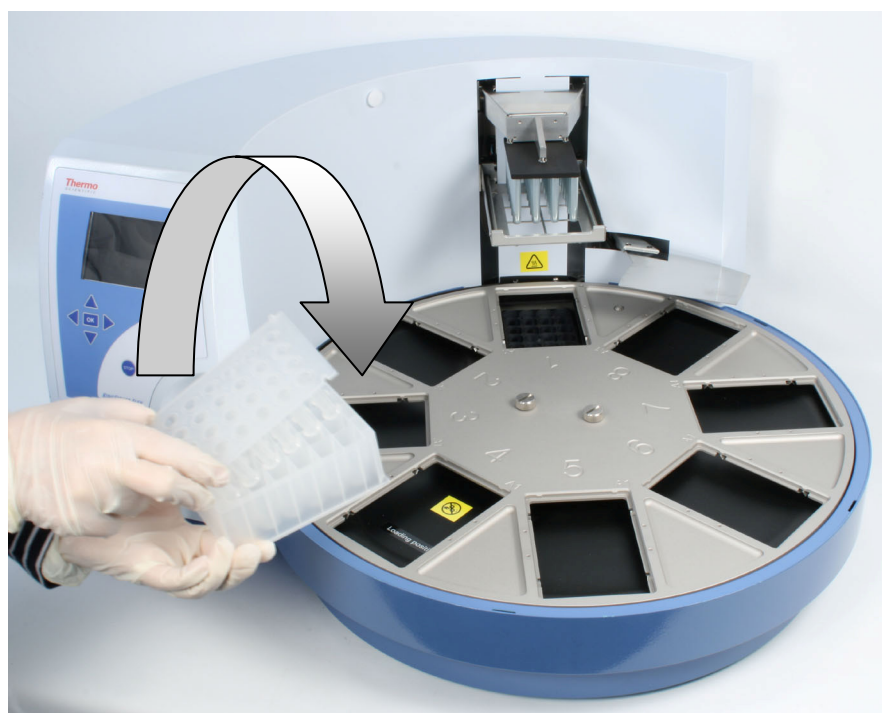

Figure 4–38. Combining the tip comb and KingFisher plate (A)
3. Load the plates in the order that the protocol requests (Figure 4–40 through Figure 4–42). Place the A1 well of the plate so that it is in the upper right corner. The first A1 row is consequently always in the inner circle. Once you have loaded the requested plates into the plate stations, press **START**. The tip comb always has to be placed manually onto a KingFisher plate (Figure 4–38 through Figure 4–40). The instrument also functions with either one plate or up to eight plates depending on the amount of steps. **Only one tip comb is placed onto a KingFisher plate (= tip-plate) per run** (Figure 4–39). Confirm the plate loading by pressing **START**.